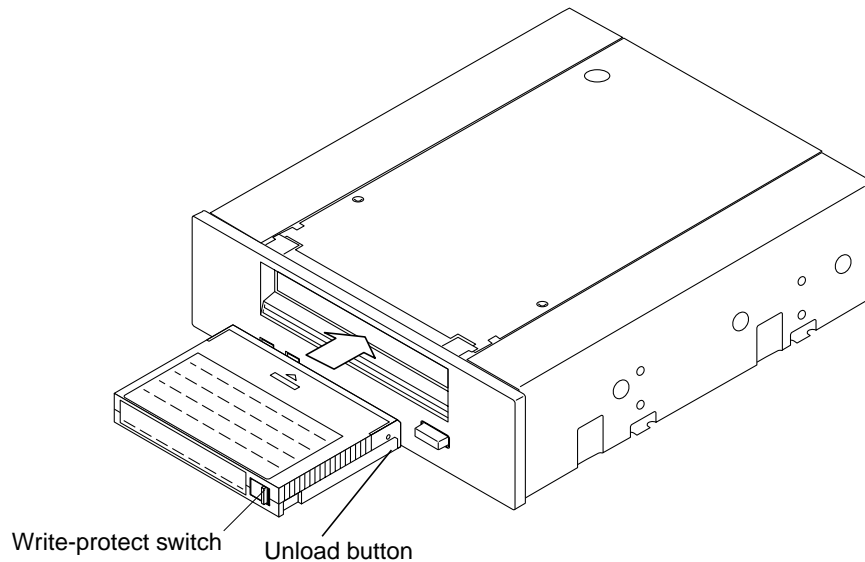

Figure 7 Inserting a Tape Cartridge
2. Set the write-protect switch on the tape cartridge (Figure 7) for the desired operation. The switch is open for write-protected and closed for write-enabled.